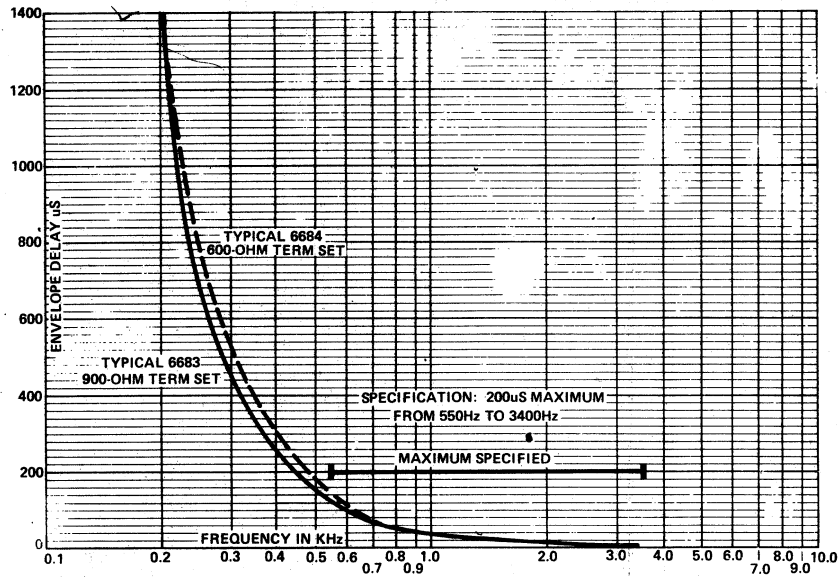
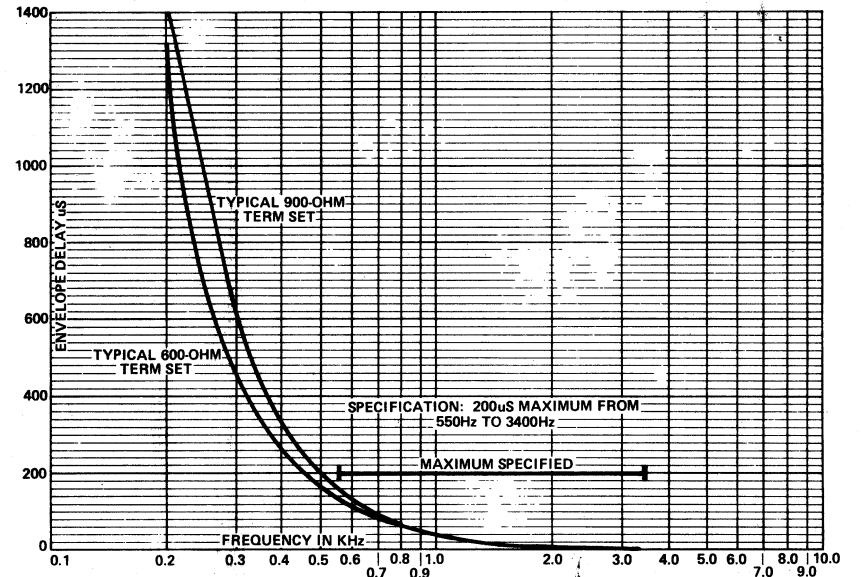

Figure 15. Envelope Delay Distortion Specification for 6683 and 6684
Figure 16. Envelope Delay Distortion Specification for 6685
- (i) ENVELOPE DELAY DISTORTION: As specified graphically. Refer to Figure 15 for the 6683 and 6684 and to Figure 16 for the 6685.